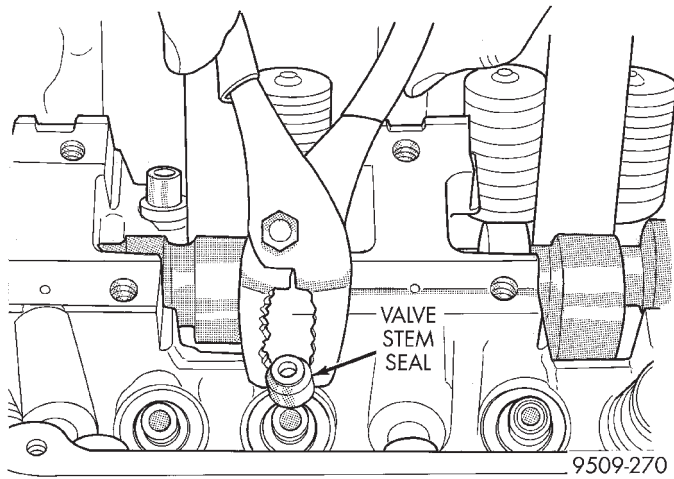

Fig. 45 Valve Stem Seals—Removal
(2) Remove valve stem seals with suitable tool (Fig. 45). Do not reuse valve stem seals.